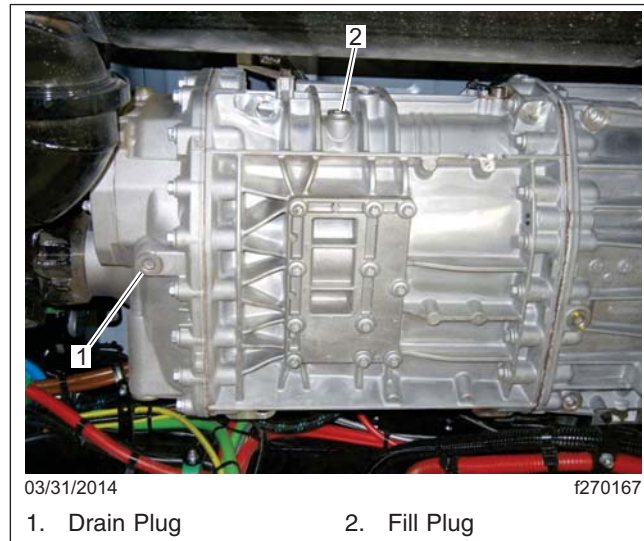

Fig. 10, Drain and Fill Plugs, Detroit Automated Transmissions
- Clean the area around the fill plug, then remove it from the side of the gear case. Remove the drain plug from the bottom of the case. See **Fig. 10**.